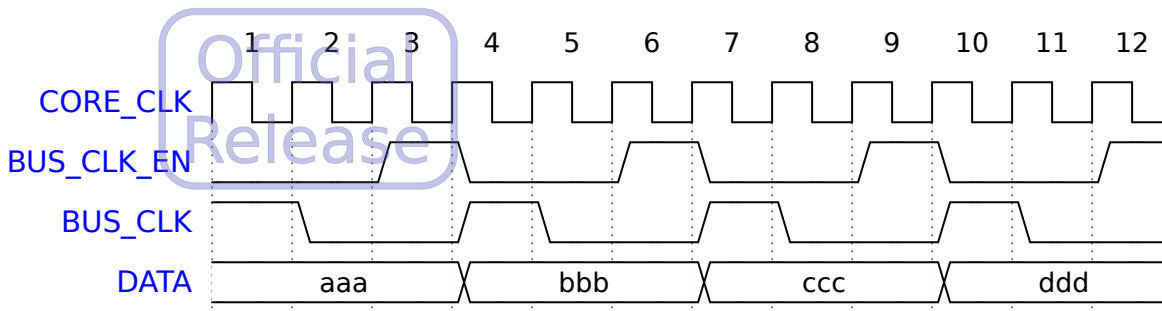

Figure 9: BUS_CLK_EN Waveform for N:1 (3:1) Clock Ratio
NX25(F) provides only one clock domain: `core_clk`. However, its bus interface signals may be operating in a separate synchronous bus clock domain. The synchronous bus clock is a virtual clock to the NX25(F) design. Input signal `bus_clk_en` serves as the clock enable signal for generating the virtual clock. `bus_clk_en` is a `core_clk` domain signal and should be asserted for one `core_clk` cycle before the rising edge of the bus clock, as shown in Figure 9. NX25(F) uses `bus_clk_en` to determine valid cycles to sample/drive the bus interface signals.